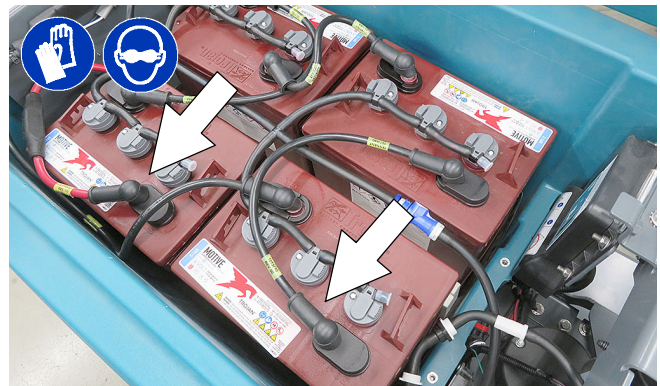

FIG. 111
1. Disconnect the battery cable connection at machine (Figure 111).